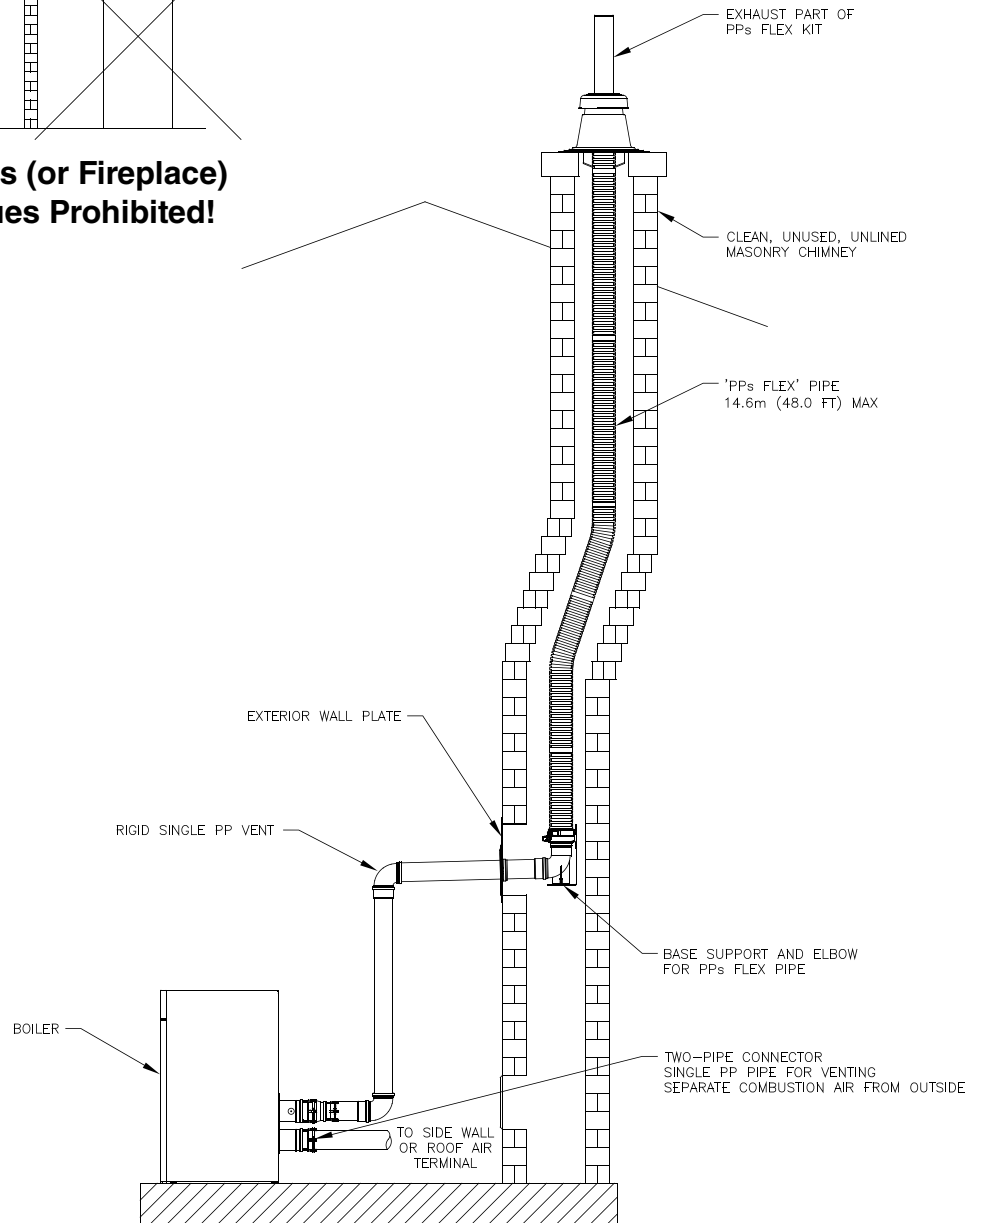

Figure 4-36: Flexible PP Vent in UNUSED Masonry Chimney with Separate Combustion Air Intake
- b. Refer to Figures 4-36 through 4-39 for details of masonry chimney chase or B-Vent chase installation.